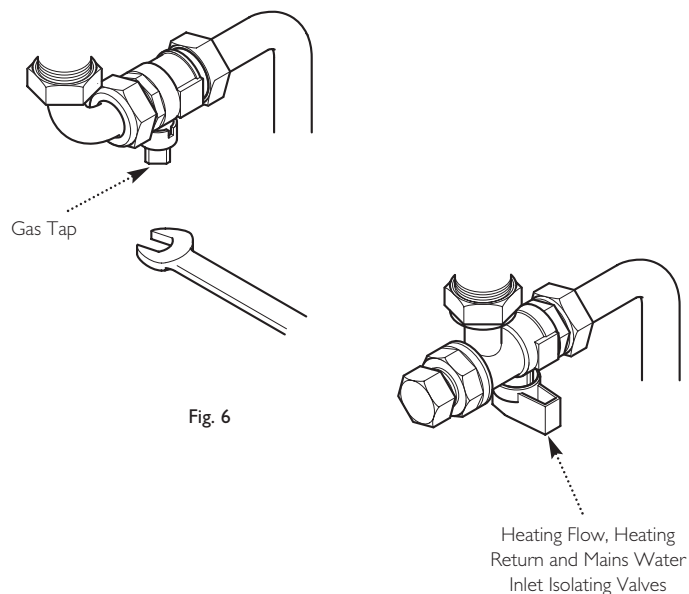

Fig. 6
Turn off the gas supply at the meter and call your gas supplier immediately. It is possible to isolate the boiler and at the isolating valve (Fig. 6).
1. Using a suitable open ended spanner, turn the square nut on the gas tap through 90° (1/4 turn) to isolate the gas supply at the boiler (Fig. 6).
3. The water isolating valves are positioned under the boiler and can be closed by turning their taps to the right towards the wall (Fig. 6).